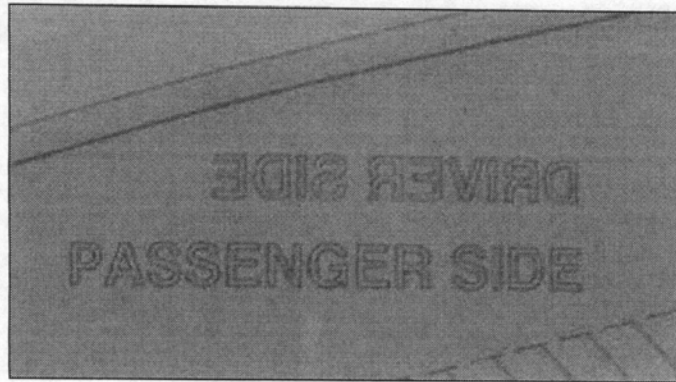

Figure 5
3. Select the "PASSENGER SIDE" of the template per Figure 5.